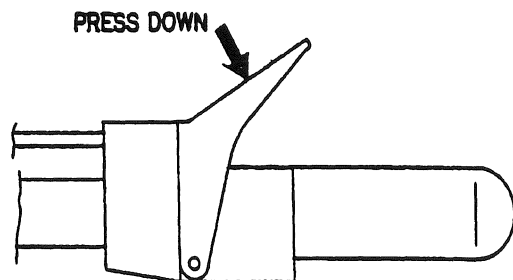

fig. 19
6. With your index finger, depress the throttle all the way to full speed prior to starting the cutting action (Figure 19).